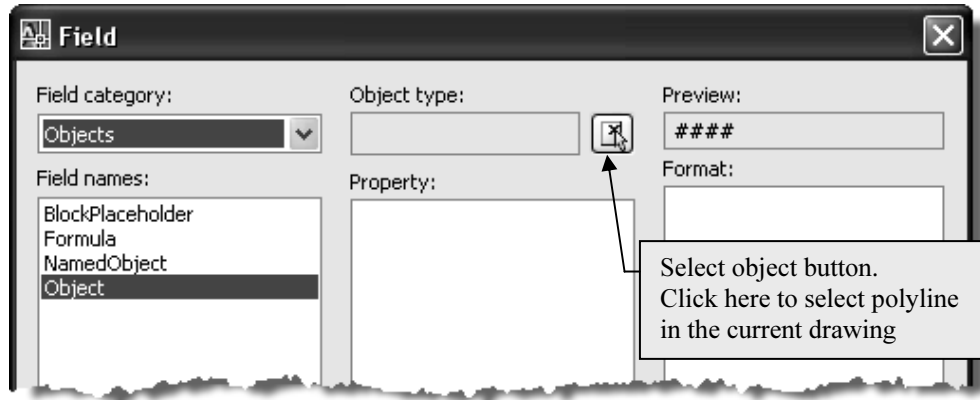

Figure 3-4.5 Field dialog box
You are now in the *Field* dialog box (Figure 3-4.5) where you specify what type of information you want this specific *Field* to display. You can have things like the date, file name and much more, and they automatically update if they change.
13. Under *Field category*, select **Objects** (Figure 3-4.5).
14. Under *Field names*, click **Object** (Figure 3-4.5).
15. Under *Object type*, click the **Select object** button (Figure 3-4.5).